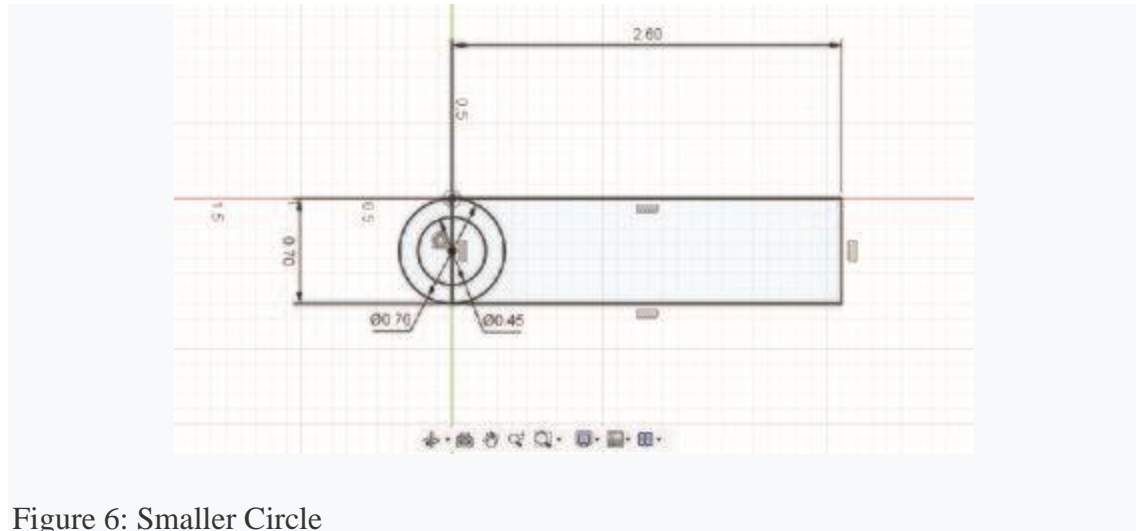

Figure 6: Smaller Circle
- ii. Draw another circle 0.45" in diameter in the same position, the sketch should look like Figure 6.